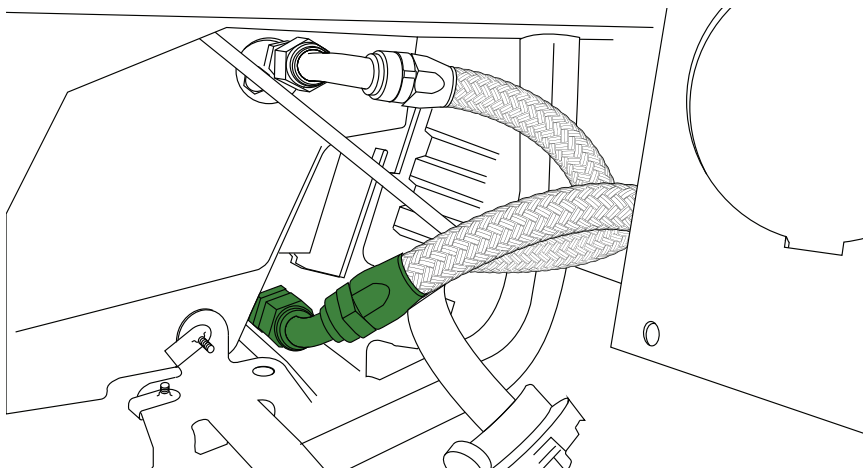

Figure 10 - Routing & Connecting the 60° Hose-End
- c. Route the 60° hose end around the radiator support bar and over the smog pump to connect it to the bottom adapter fitting on MHX-245C as shown in Figure 10.
33. Remove the wire harness clip from the radiator fan and replace it with HTD-1006. This is the **orange** zip tie shown in Figure 10.
36. Use the remaining HTD-1004 to tie the hoses together in the locations shown in **green** on Figure 10.